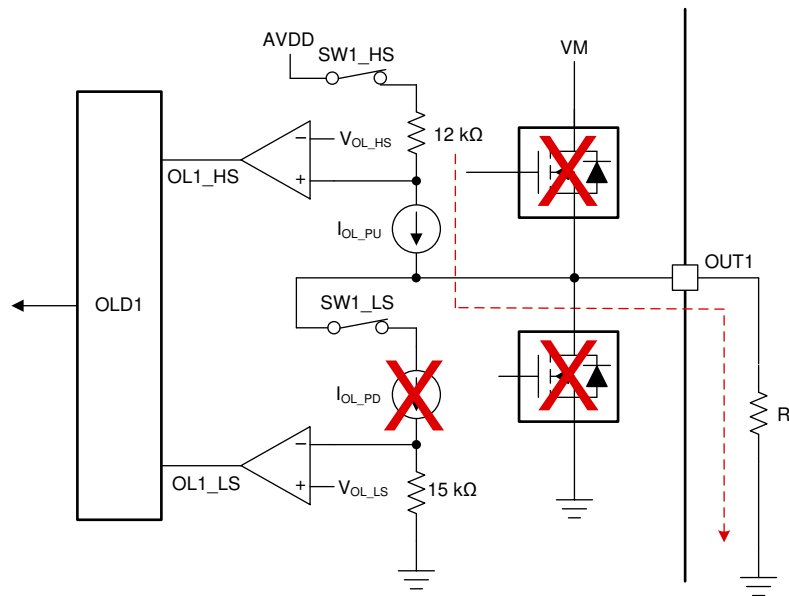
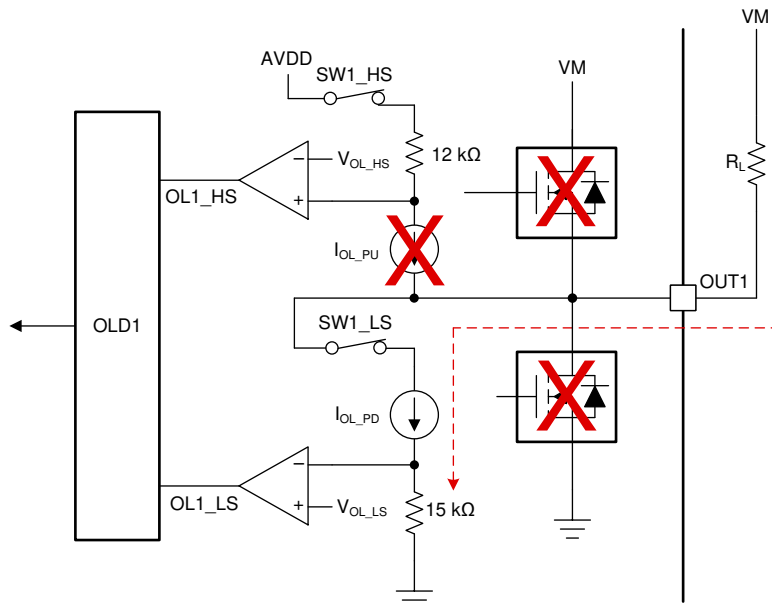

图 59. Open Load Detect Circuit for Load Connected to Ground (GND)
图 61. Open Load Detect Circuit for Load Connected to Supply Voltage (VM)
OLD circuit consists of four main components i.e. current source (and current sink), series sequencing switches (sequenced by the digital core), resistors and comparators. For ground (GND) connected load, the current source (I_{OL_PU}) pulls up the OUTx node to internal regulator voltage (AVDD) and allows the current to flow from internal regulator voltage (AVDD) to ground via the connected load as shown in 图 59. Moreover, for the supply (VM) connected load, the current sink (I_{OL_PD}) pulls down the current from supply voltage (VM) to ground via the connected load as shown in 图 61. The resistance of the load connected at the OUTx terminal will change the source / sink current and indirectly the voltage drop across two resistors (12-kΩ and 15-kΩ). This voltage drop across resistors is compared with the reference voltage (V_{OL_HS} and V_{OL_LS}) by the internal comparators to give the output as OL1_HS and OL1_LS. This comparator output is fed to the open load digital circuit to determine the open load condition.
图 59 shows the ground connected load with internal OLD circuit. When high-side open load sequence is activated (i.e. SW1_HS is on and SW1_LS is off), the current source (I_{OL_PU}) pulls up the OUT1 node to internal regulator voltage (AVDD) and current flows from internal regulator voltage (AVDD) to ground via the connected load (R_L). Now, depending upon if the load is present or not, there can be three cases as follows:
8.2.3.3 OLD for Supply (VM) Connected Load
图 61 shows the supply (VM) connected load with internal OLD circuit. When low-side open load sequence is activated (i.e. SW1_HS is off and SW1_LS is on), the current sink (I_{OL_PD}) pulls down the $OUT1$ node to supply voltage (V_{VM}) and current flows from supply (VM) to ground via the connected load (R_L). Now, depending upon if the load is present or not, there can be three cases as follows: